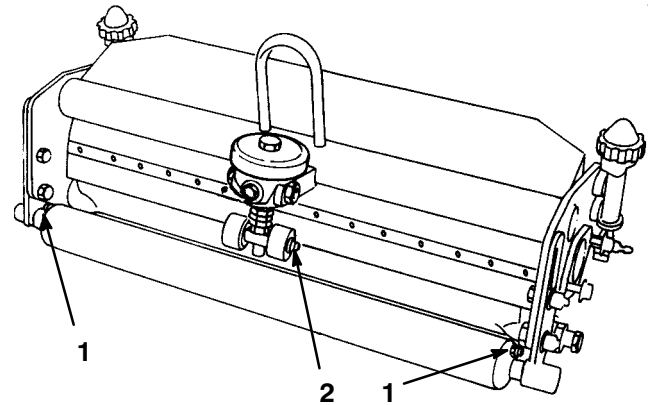

**Figure 10**
There are seven grease fittings on each cutting unit (Fig. 10 and 11) which should be greased at least once every two weeks. Lubricate them using a No. 2 multipurpose lithium-based grease. For best results, use a hand-operated grease gun.
2. Grease the reel bearings (Fig. 10) as follows:
3. Apply grease to the front and rear roller bearings (Fig. 10 and 11) until it begins to show around the seal lips.